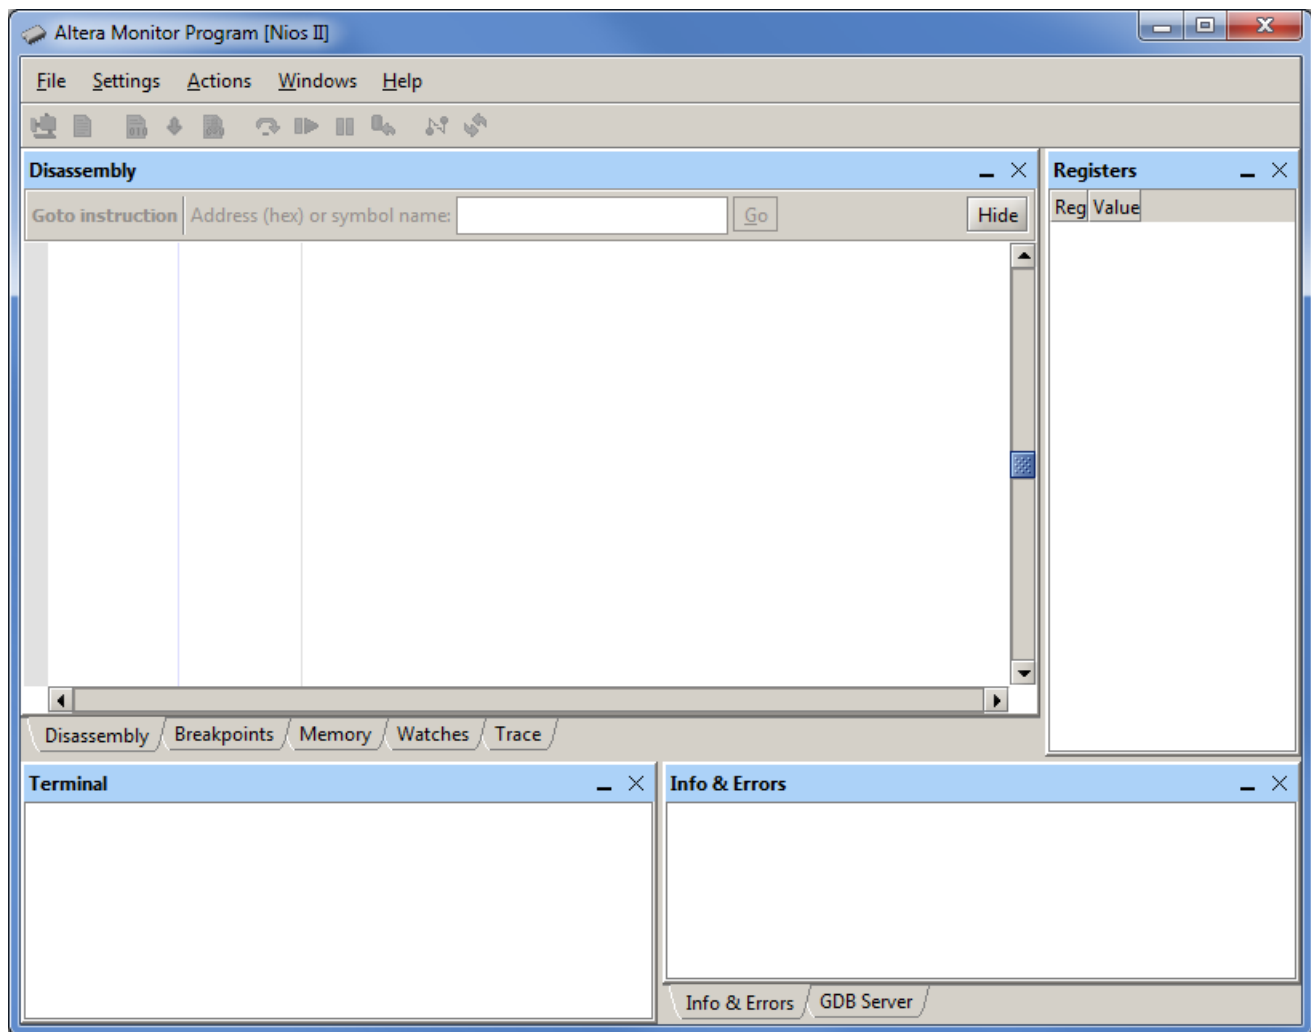

Figure 25. The Altera Monitor Program main window.
Open the Altera Monitor Program, which leads to the window in Figure 25.
9. Now, in the monitor window in Figure 25 select Actions > Compile & Load to assemble (compile in the case of a C program) and download your program.